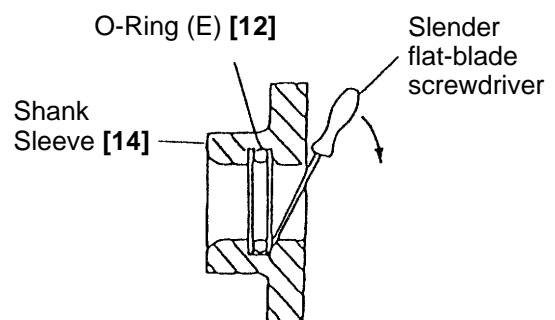

Fig. 8
- Removal of O-Ring (E) [12]
As O-Ring (E) [12] is installed in the inner portion of the Shank Sleeve [14], it may be difficult to remove. As illustrated in Fig. 8, pry O-Ring (E) upward gently with a slender flat-blade screwdriver, being very careful not to damage the surface of the O-ring.